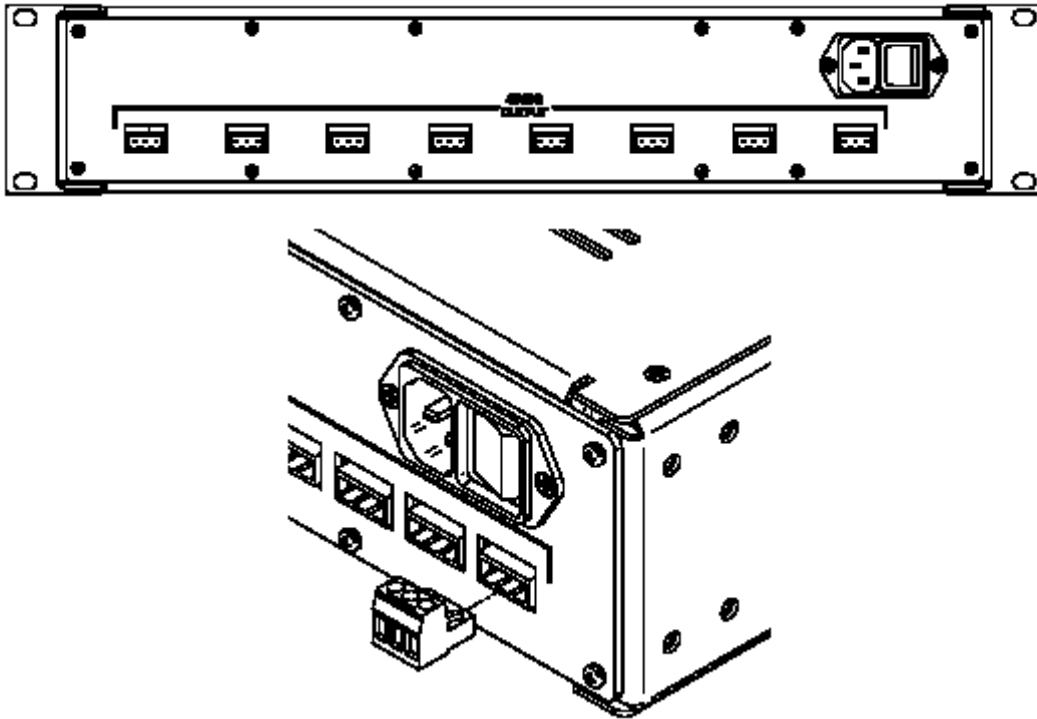

Figure 13: AC Power Supply Rear Panel.
- Figure 13: AC Power Supply Rear Panel
There are two power supply offerings available from **EMS Wireless** which are specifically designed for deployment in EkoLink II systems. The AC Supply is shown in Figure 13. It has eight outputs for EkoLink II systems.